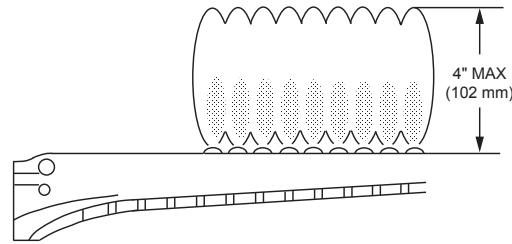
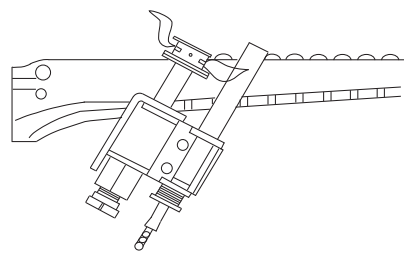

Figure 69. Main Burner Flame
Figure 70. Millivolt Pilot Burner Flame
- 4. Make visual check of the burner and pilot flames. Yellow flame means restriction of the air openings. Lifting or blowing flame indicates high gas pressure. Low flame means low gas pressure. Should the latter occur, shut the heater off and contact your gas supplier or qualified service agency. See **Figure 69** and **Figure 70**.